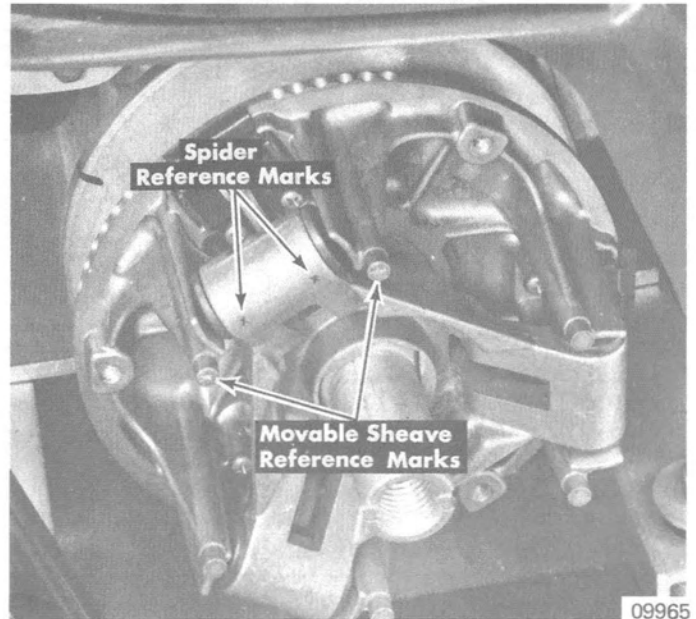

Figure 8. Reassembling Drive Clutch
2 roller guide posts) and install spider on spindle of fixed sheave. (Figure 8)
5. Align spider reference marks ("X" stamped on spider) between movable sheave reference marks ("X" stamped on 2 roller guide posts) and install spider on spindle of fixed sheave. (Figures 8 and 9)